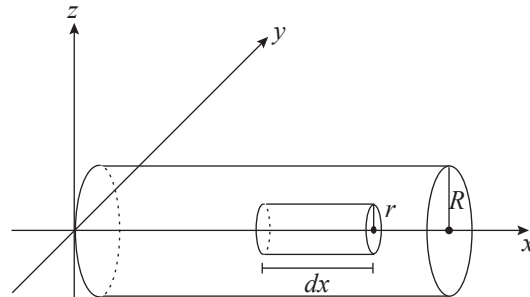

Figure 2 Differential Volume Element
In order to understand how the velocity of the flow depends on the distance from the axis, we will consider a small differential volume element in the form of a circular cylinder around the x -axis and in the axial direction, with base radius r and length dx (see Figure 2).
Assuming flow in the positive direction, the volume element illustrated in Figure 2 will move because the fluid pressure acting on its left base is greater than that on its right base. On the other hand, a restraining force arising from the fluid's internal friction, or viscosity, is acting in the direction opposite of movement. In general, the force restraining the movement of a layer of fluid by the layer next to it is proportional to their area of contact A and the change of velocity from one layer to the other, divided by the distance over which this change is occurring. In our case,
2. a. Denoting fluid pressures acting on the two bases of the differential volume element in Figure 2 by P and $P - dP$, respectively, show that the force acting in the positive direction on the volume element is